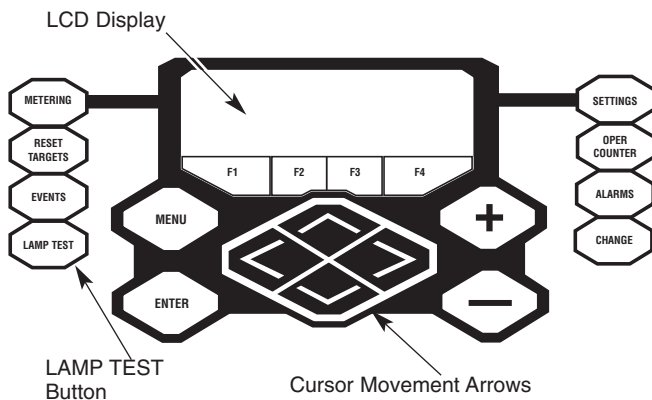

Figure 38. Lamp Test button, LCD display, and cursor movement arrows.
1. Verify operating status of all indicator lights by pressing the LAMP TEST key on the programming panel (Figure 38).
Note: Scroll through the LCD display messages by pressing the \blacktriangle and \blacktriangledown cursor movement arrows underneath the LCD display on the programming panel (Figure 38).